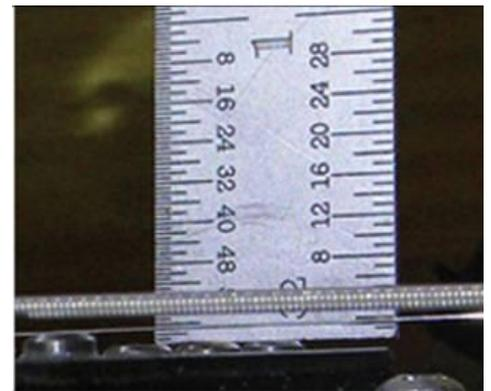

Fig 5.4 Pickup Height Measurement
5.5 Pickup Height (Figure 5.4) - 4 -
1. Check and, if necessary, adjust the low (thick) E string height at the 12th fret to 2/64". Do this by adjusting the height of the bridge at the thick E string end (Fig. 5.4). This is done by rotating the Bridge insert adjustment counter-clockwise to raise the bridge or clockwise to lower it.
5.5 Pickup Height (Figure 5.4)